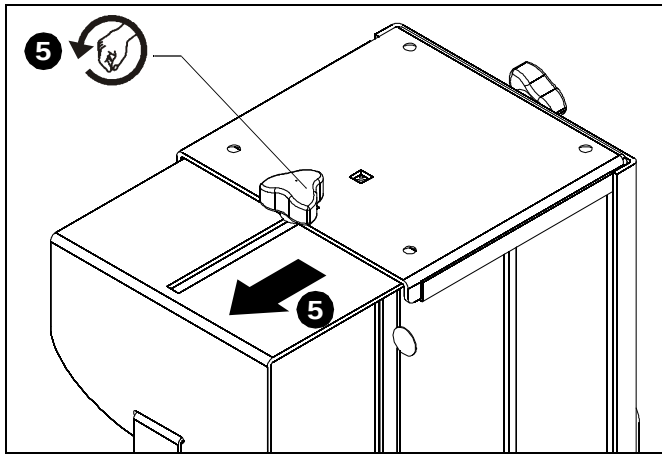

Figure 5
5. Loosen adjustment knobs on top and bottom of the mount and slide flanges in order to allow for the CPU to be inserted for mounting. (See Figure 5)
NOTE: Top and bottom knobs can be removed and inserted into the front square holes in order to allow for large CPU's to be installed. (See Figure 5)